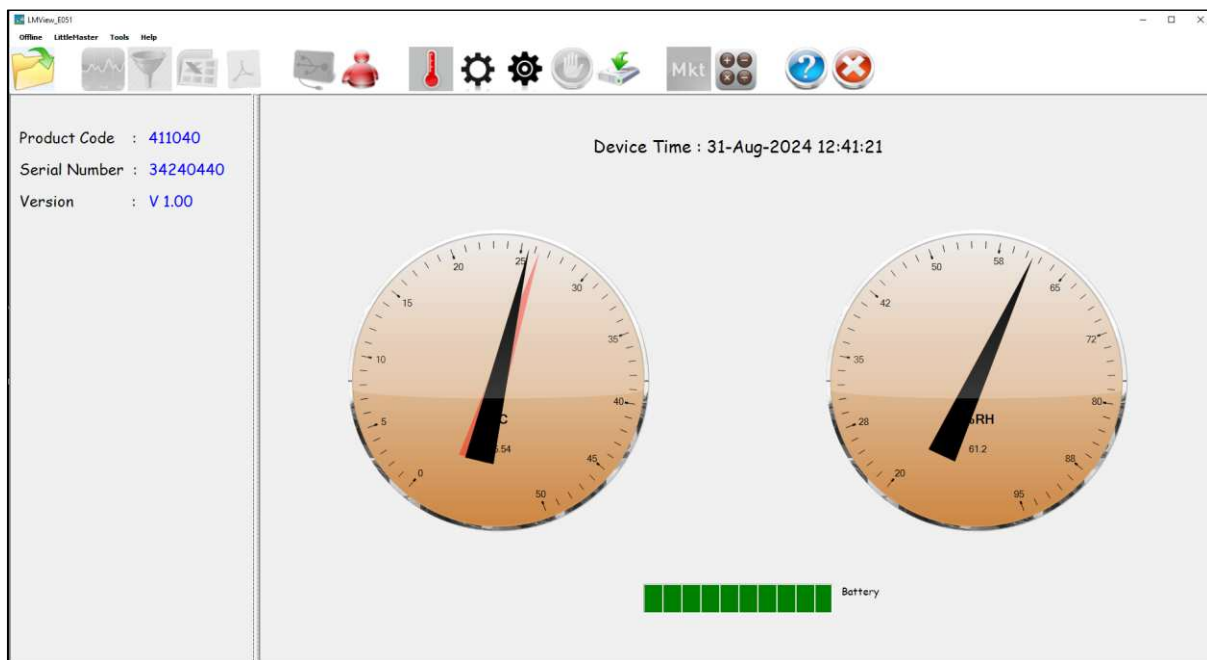

Figure 13 Current Temperature & Humidity reading of the LM^{Pro} H Data Logger
- Click on USB  icon to connect the device with the LMViewE051. The current Temperature and Humidity reading, Battery level and UTC time of the device will be seen as shown in figure 13.